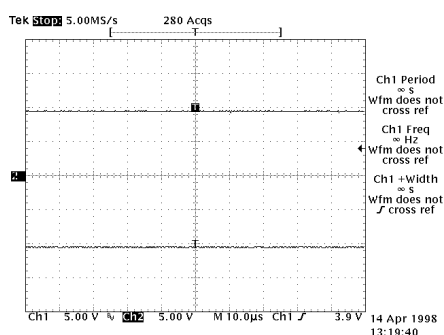

fig. 11
- a wave form as shown in fig. 11 with the A DC selector in DC